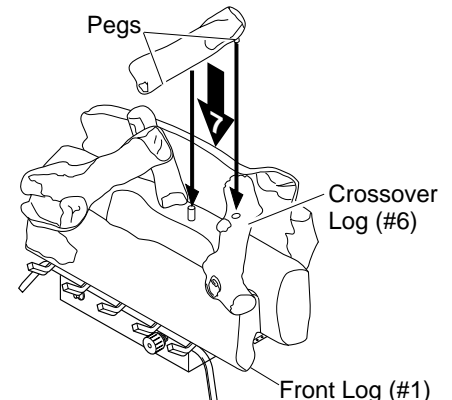

Figure 30 - Installing Crossover Log (#7)
7. Locate pegs on the bottom of crossover log (#7). Slide these pegs into the holes located in crossover log (#6) and front log (#1). See Figure 30.